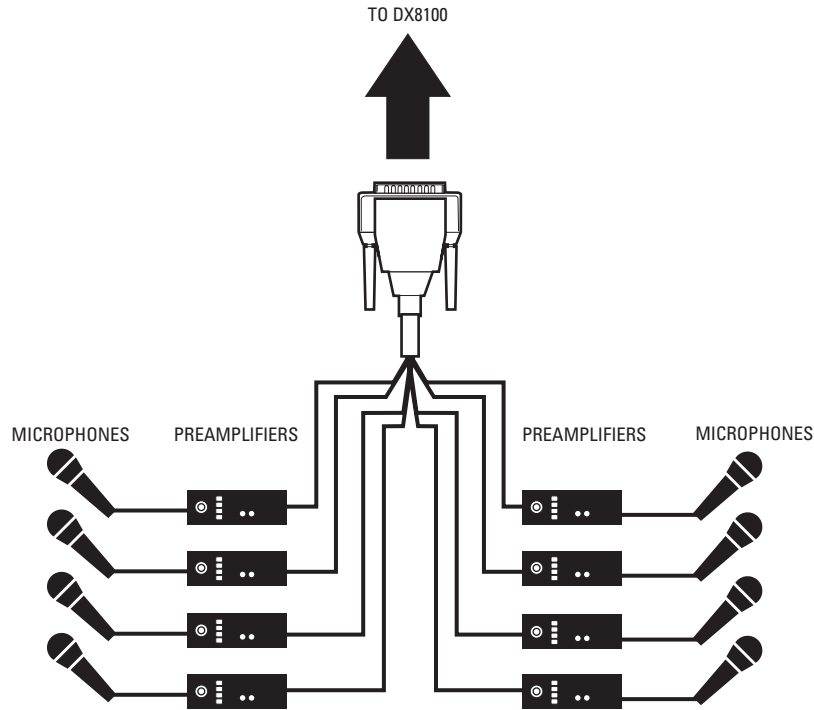

Figure 88. Sample 8-Audio Input Cable Configuration
2. Connect each of the 8 or 16 RCA-type audio connectors to a line-level (+4 dB) gain audio source. Refer to Figure 88.